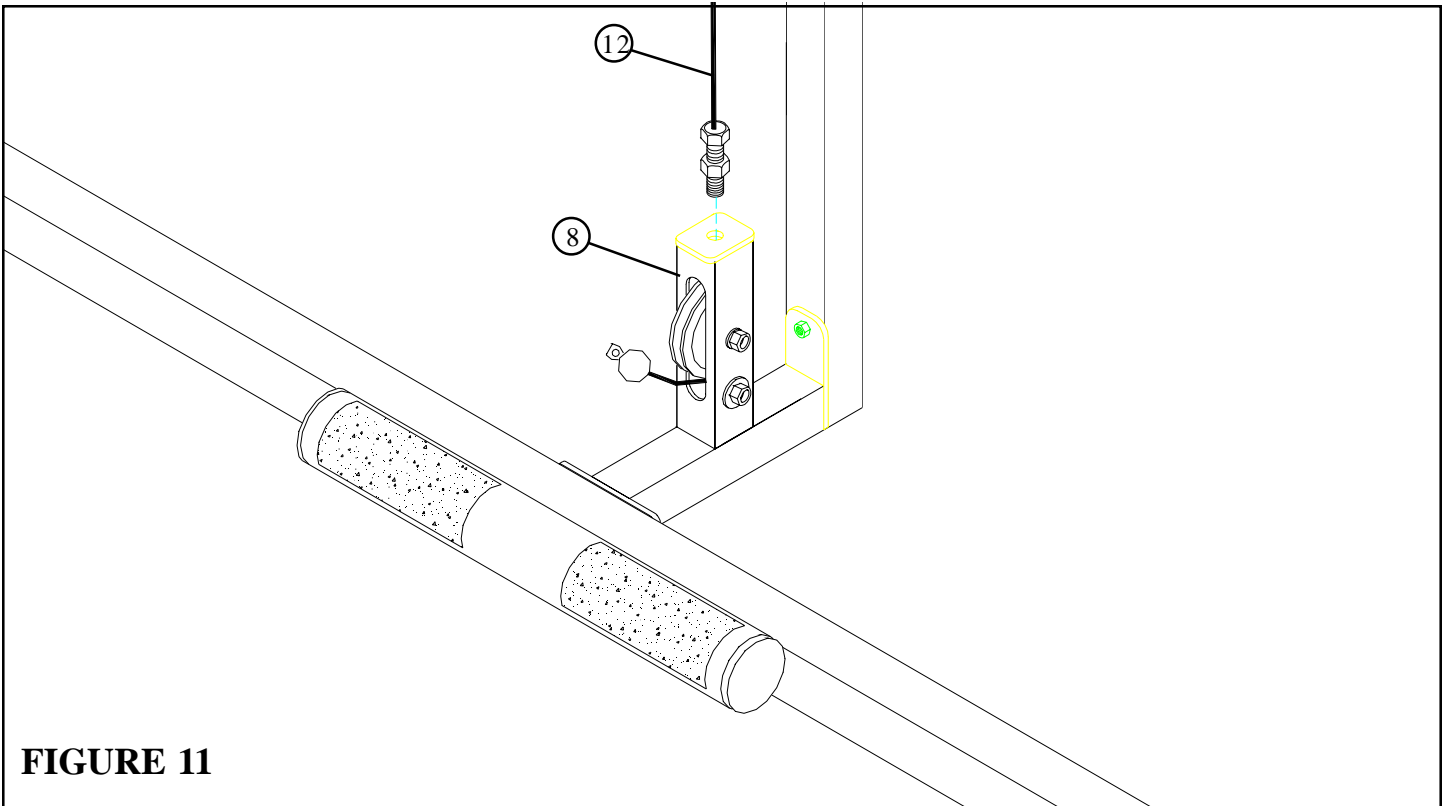

**FIGURE 10**
- Loop the LOW ROW CABLE (12) around one 3-1/2" PULLEY (10) as shown in FIGURE 10.
- **LOOSELY** assemble the 3-1/2" PULLEY (10) to the 1-3/4 X 5-1/4" PLATES (14) using one 3/8 X 2" BOLT (16) and one 3/8" LOCK NUT (21). See FIGURE 10.
- **SECURELY** tighten the two 3/8 X 2" BOLTS (16) of the 1-3/4 X 5-1/4" PLATES (14).